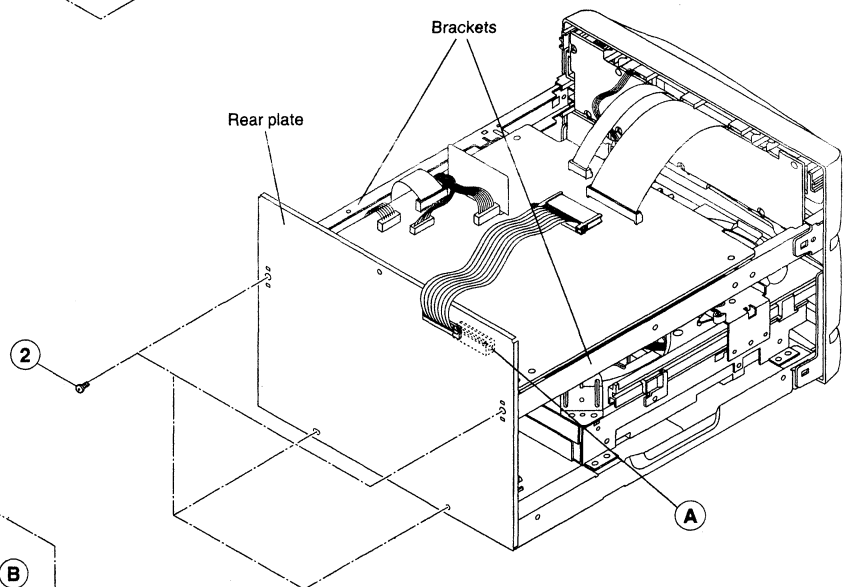

Fig. 15
- (1) Remove 5 screws ①.
2. Removal of Rear Plate (Fig. 15)